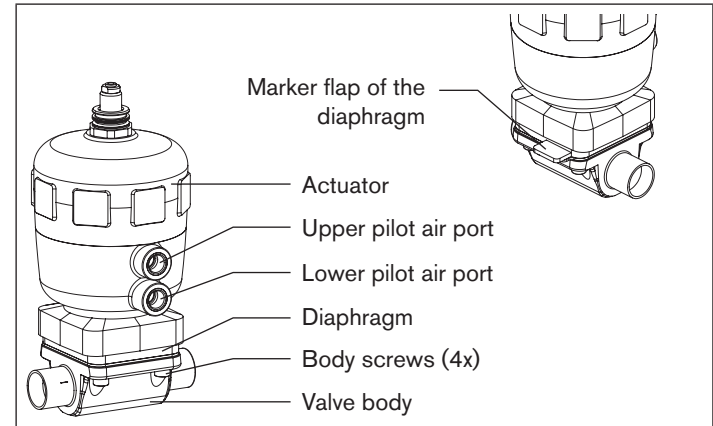

Fig. 18: Repairs
**The marker flap of the diaphragm must be perpendicular to the direction of flow** (see "Fig. 18")!
- Pressurize upper pilot air **port** of the actuator with compressed air (5 bar) (see “Fig. 18”).